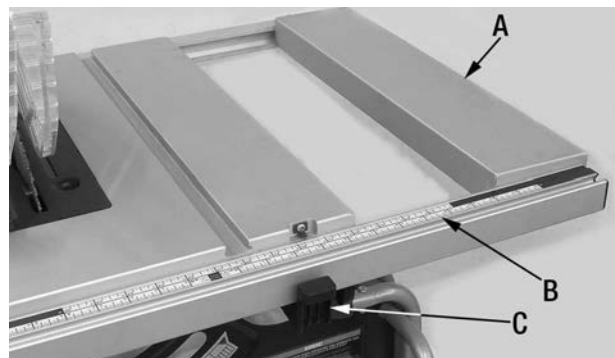

FIGURE 14
2. Unlock the extension table (A) Fig.14 by raising the extension lock lever (B), slide the extension to the desired width. Use the scale on the front rail (C) when a specific width is desired, or measure the distance from the blade for precise cuts.
3. Once the extension table is in the desired position, lower the lock lever (C) to secure the extension in place. The rip fence can now be reinstalled.